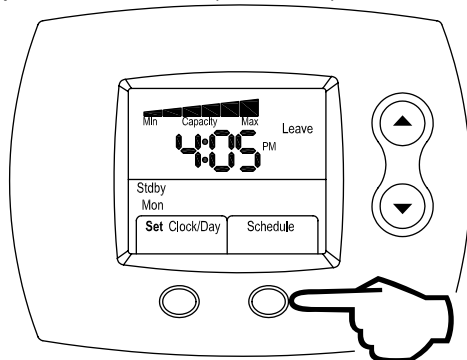

Figure 48
Step 1: From the Home screen, press the **RIGHT** (Schedule) button, as shown in Figure 48.